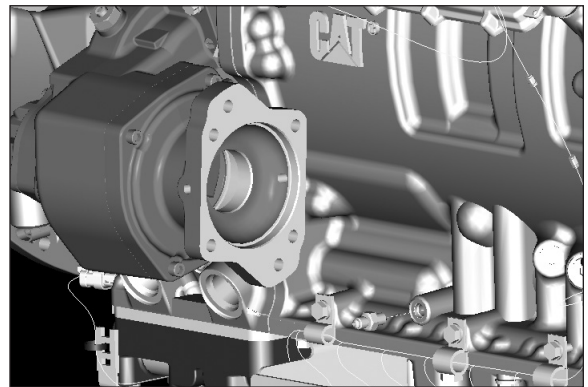

Figure 35
- Install the remaining cap screws. Torque them to 37-44 lb-ft [50-60 N-m] (**Fig. 35**).